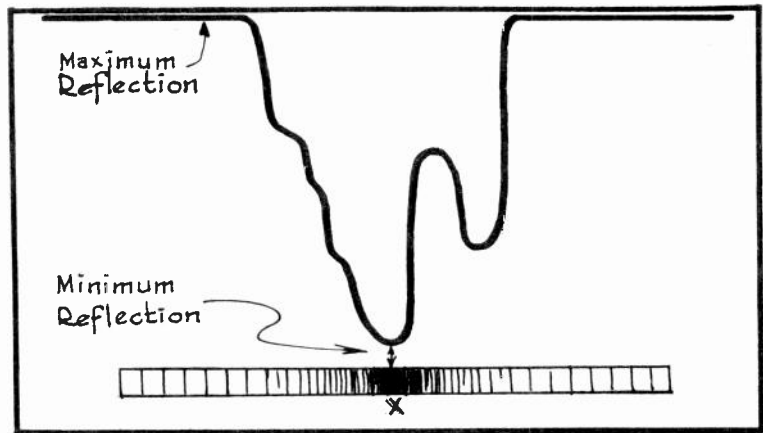

FIG. 7
IN THIS SAME WAY, WE PASS THIS LIGHT BEAM OVER ONE HORIZONTAL ROW OF SQUARES AT A TIME, GRADUALLY WORKING FROM THE TOP OF THE FRAME TOWARDS THE BOTTOM AND FROM THE LEFT TOWARDS THE RIGHT. FINALLY, LET US ASSUME THAT WE COME TO ROW #5. IN FIG.7, THIS ROW OF SQUARES IS SHOWN IN DETAIL, WITH THE VARIOUS DEGREES OF SHADING CORRESPONDING TO THE CONDITION IN
THE FIRST NINE SQUARES FROM THE LEFT ARE PLAIN WHITE AND SO FROM THESE, WE GET THE SAME AMOUNT OF LIGHT REFLECTION, AS THE BEAM IS GRADUALLY MOVED FROM THE LEFT TOWARD THE RIGHT. FINALLY WE COME TO THE TENTH SQUARE FROM THE LEFT IN FIG. 7, WHICH IS PARTIALLY SHADED BY THE WOMAN'S HAIR (REFER TO FIG. 6) AND THE FOLLOWING FEW SQUARES IN FIG. 7 EACH HAVE A VARYING AMOUNT OF SHADING, WITH THE DARKEST REGION BEING AT THE SECTION MARKED "X" IN FIG. 7.
THESE SHADED SQUARES WILL NOW EACH REFLECT A DIFFERENT PERCENTAGE OF LIGHT, WITH THE DARKEST PORTION REFLECTING THE LEAST. SHOULD WE INDICATE THIS VARIATION OF LIGHT REFLECTION AS A CURVE WHILE THE BEAM IS BEING PASSED FROM THE LEFT TOWARD THE RIGHT OF ROW 5, WE WOULD OBTAIN A CURVE WITH VARIATIONS SOMEWHAT AS PICTURED AT THE TOP OF FIG. 7. NOTE THAT THE CURVE INDICATES MAXIMUM LIGHT REFLECTION ABOVE THE WHITE SQUARES BUT THEN IT DECREASES AND INCREASES OVER THE SHADED REGION, COMING TO ITS MINIMUM VALUE OVER THE DARKEST REGION (X).
THIS LIGHT REFLECTION CURVE OF FIG. 7, YOU WILL NOTE, LOOKS A GREAT DEAL LIKE THE CURVES ILLUSTRATING VARIATION IN MICROPHONE CURRENTS, AS CAUSED BY SOUNDS OF VARYING FREQUENCIES BEING IMPRESSED UPON ITS DIAPHRAGM AND SO WE CAN GIVE YOU A HINT AT THE PRESENT TIME, THAT IT IS THE VARIATIONS OF LIGHT REFLECTIONS AS ILLUSTRATED IN FIG. 7 THAT ARE GOING TO BE USED TO MODULATE THE TRANSMITTER'S CARRIER FREQUENCY.
RETURNING TO FIG. 6, YOU WILL OBSERVE THAT AS WE GRADUALLY MOVE DOWNWARD ONE ROW OF SQUARES AT A TIME AND PASS THE BEAM OF LIGHT FROM THE LEFT TOWARDS THE RIGHT, WE WILL OBTAIN A WHOLE SERIES OF CHANGES IN LIGHT REFLECTION, SUCH AS SHOWN IN FIG. 7 BUT THE REFLECTION CURVE OF EACH HORIZONTAL ROW WILL BE DIFFERENT, BEING DEPENDENT ENTIRELY UPON THE DEGREE OF SHADING AT THAT PARTICULAR SECTION OF THE IMAGE.